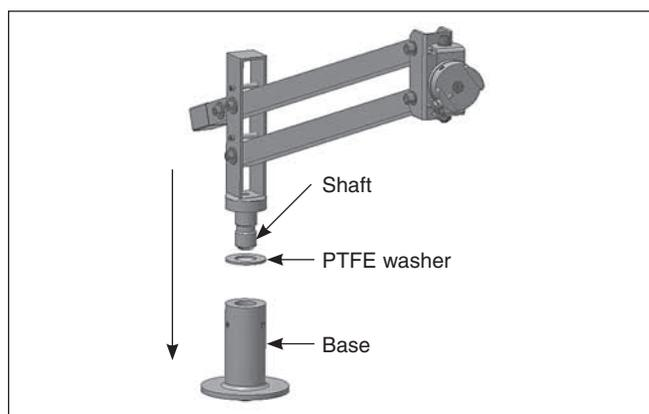

Fig. 1.1.
1.1. Place the white PTFE washer onto the mount shaft as shown in **Fig. 1.1**. Then insert the shaft into the base (part 11).